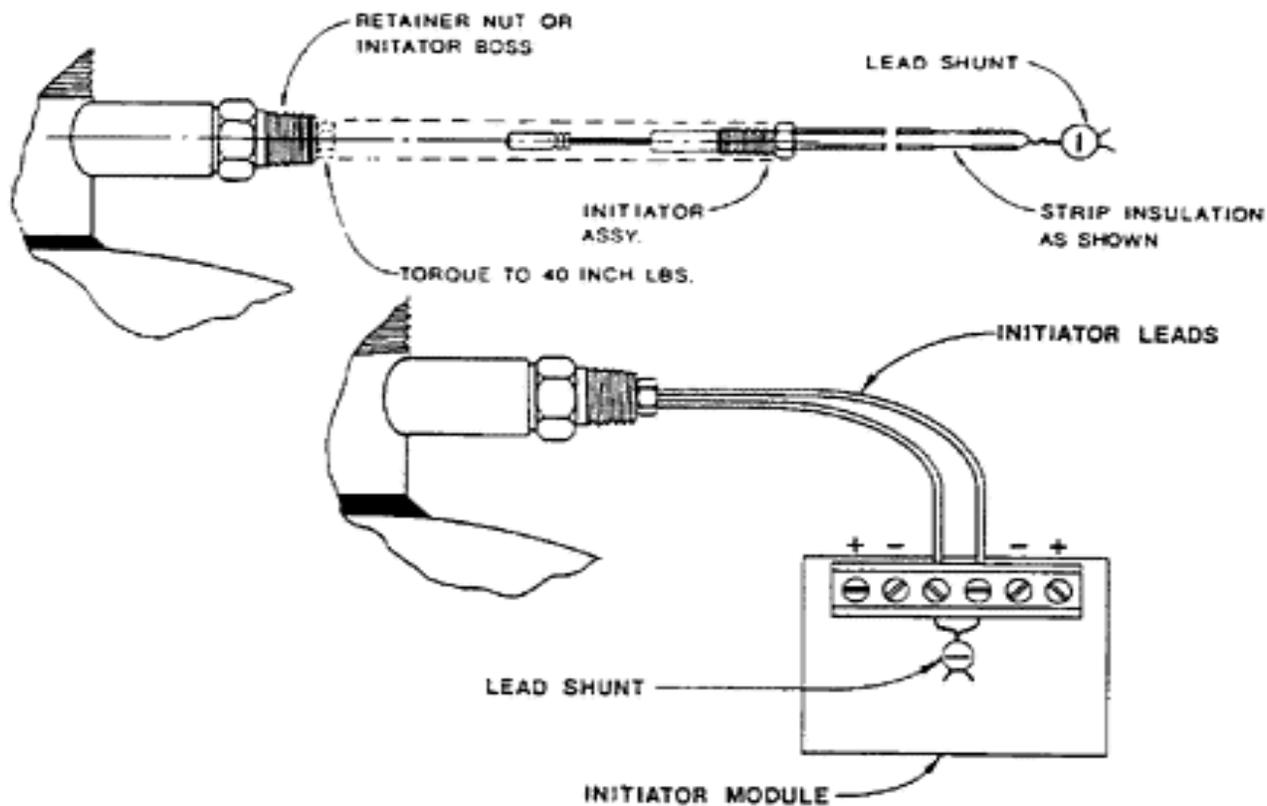

FIGURE III.1.10-B
- Step 6: Insert stripped sections of initiator leads under center screw terminals (no polarity requirement) located on the agent release module and tighten screw terminals (See Figure III.1.10-B for pictorial clarification).